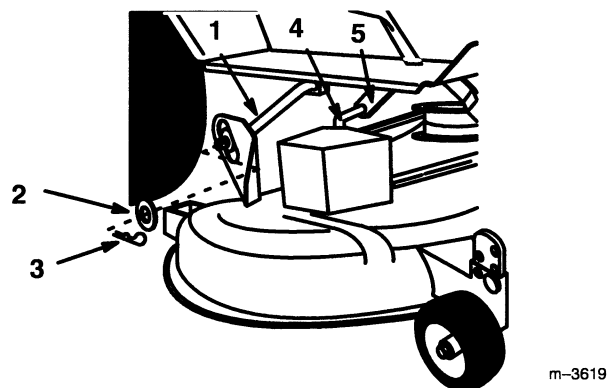

Figure 4
3. Slide the mower under the chassis from the right side (Fig. 4) and align rear mounting bushings with ends of lift arms.
5. Place rear guide bushings, first left side then right, onto lift arms then slide deck left into position (Fig. 4).
6. Secure deck to rear lift arms with (2) 3/4" washers and (2) 3-3/8" hairpin cotters (Fig. 4).